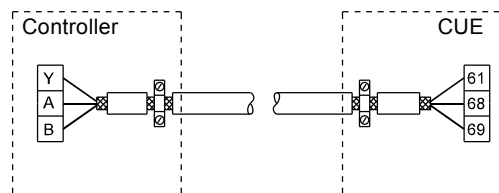
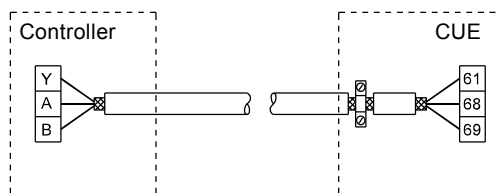

Fig. 10 Example of connection of a 3-conductor bus cable with screen connected at both ends
Fig. 11 Example of connection of a 3-conductor bus cable with screen connected to CUE (controller with no cable clamps)
- Connect the screen to frame at both ends for both motor and signal cables. See fig. 10. If the controller has no cable clamps, connect only the screen to the CUE cabinet. See fig. 11.